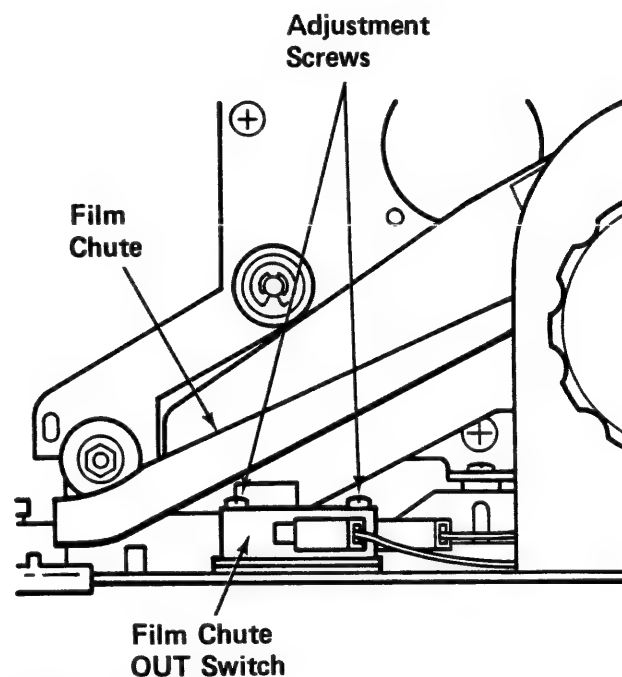

Figure 3-10.9A
1. Loosen the Adjustment Screws for the Film Chute Out Switch (S10) (Figure 3-10.9A).